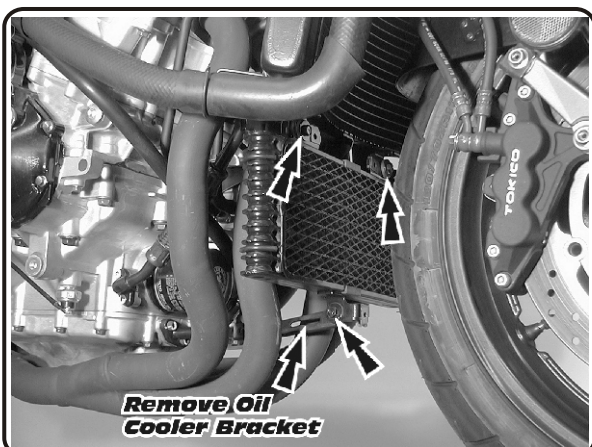

Fig. 4
- 3 Unbolt oil cooler, unbolt and remove lower oil cooler bracket. (See Fig. 4) Do not disconnect oil lines from oil cooler.